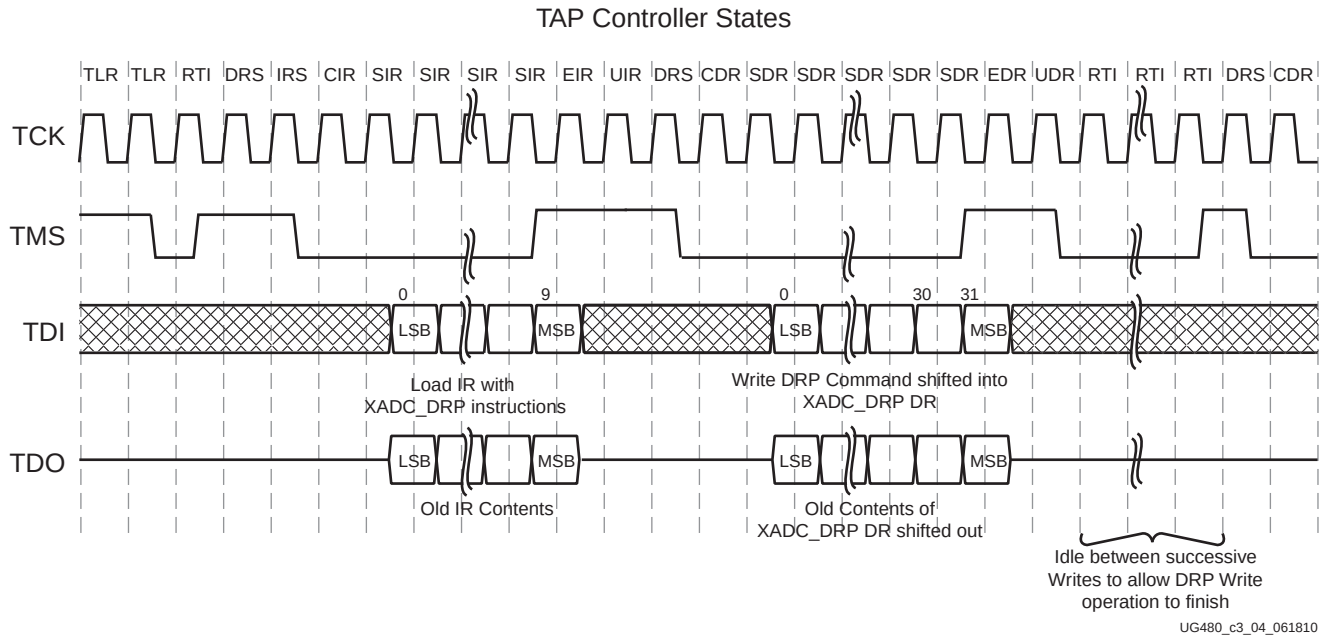

Figure 3-4: XADC JTAG DRP Write
Figure 3-4 shows a timing diagram for a write operation to the XADC DRP through the JTAG TAP. The DRP is accessed through the XADC Data Register (XADC DR). Before the XADC DR is accessed, the instruction register (IR) must first be loaded with the XADC instruction. The controller is placed in the IR-scan mode, and the XADC instruction is shifted to the IR.
If multiple writes to the XADC DR are taking place, it might be necessary to idle the TAP controller for several TCK cycles before advancing to the next write operation (see Figure 3-4). The idle cycles allow the arbitrator to complete the write operation to the XADC DRP register. If DCLK is running approximately $6 \times \text{TCK}$, these idle states are not necessary. However, inserting 10 or so idle states ensures all transfers are inherently safe.